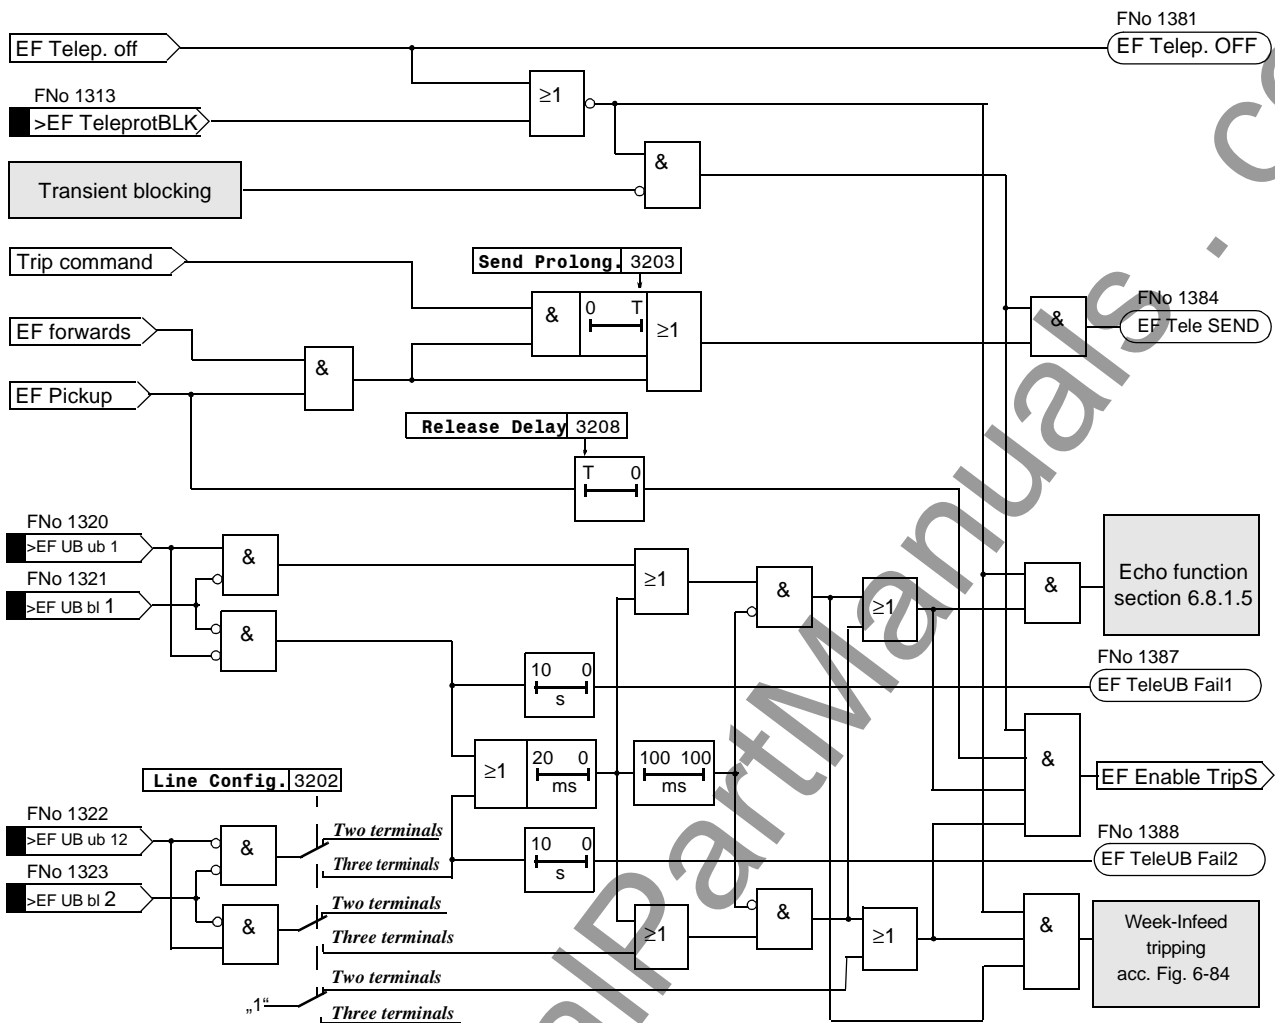

Figure 6-77 Logic diagram of the unblocking scheme (one line end)
- Figure 6-77 shows the logic diagram of the unblocking scheme for one line end.